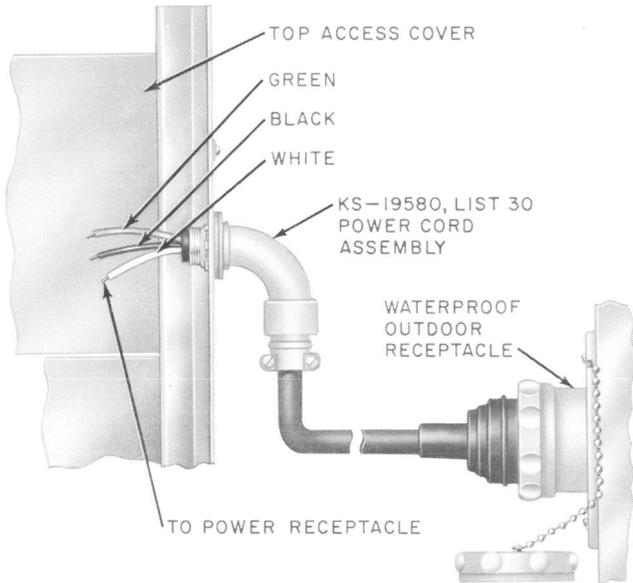

Fig. 22—KS-19580, List 30 Power Cord Assembly for Overhead Entrance
3.15 Bring overhead power into an outdoor booth with a KS-19580, List 30 power cord assembly (Fig. 22).